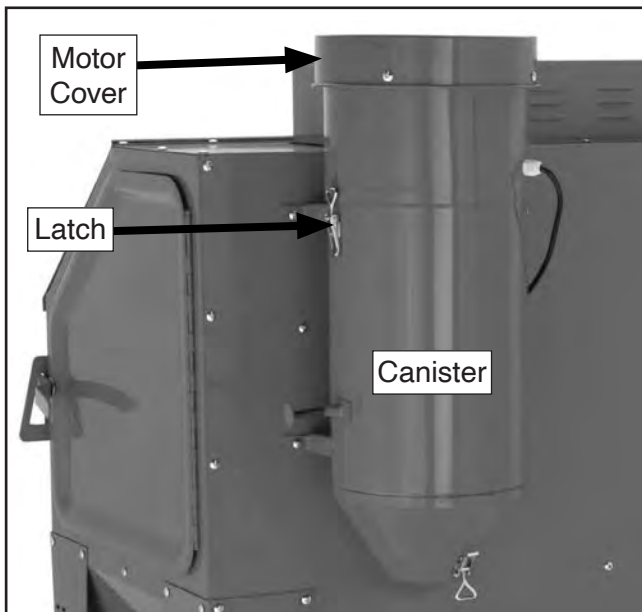

Figure 34. Motor cover.
2. Unlatch the dust collector and lift the entire motor and filter unit out of the canister and place it on a workbench for ease of service (see **Figure 34**).
3. Using the Phillips screwdriver, remove the four motor cover screws and the cover (see **Figure 34**).